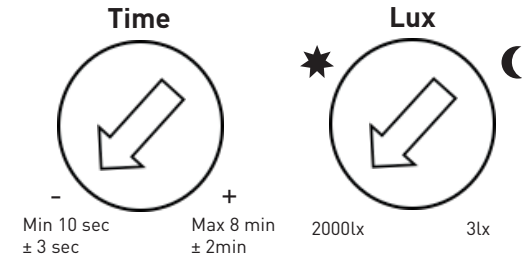

Fig 3
- If the settings are applied as shown in fig 3, when movement is detected within range, the load will come on instantly and stay on for period of 10 sec \pm 3 sec
- Fig 3 also shows the lux level to daylight and will work during the day when the lux level is approximately 2000lx